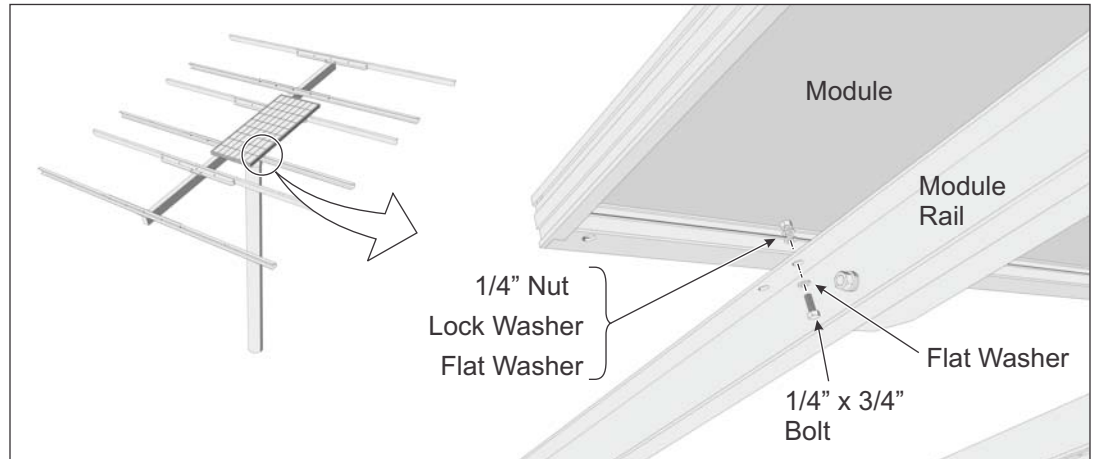

Figure 5-1: Installing PV Modules to Module Rails
- A. Place an interior PV Module on the Module Rails. Align the mounting holes and secure with 1/4" x 3/4" bolts and hardware. Each Module has four attachment points. Finger-tighten for now. (See Figure 5-1)